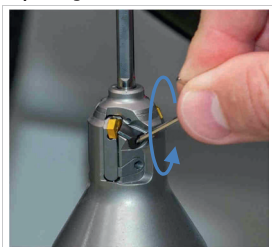

Fig. 10: Loosening the clamping screw
2. Loosen the clamping screw with a suitable Allen key by turning the clamping screw **approx. 1½ turns** anti-clockwise (see Fig. 10: Loosening the clamping screw).